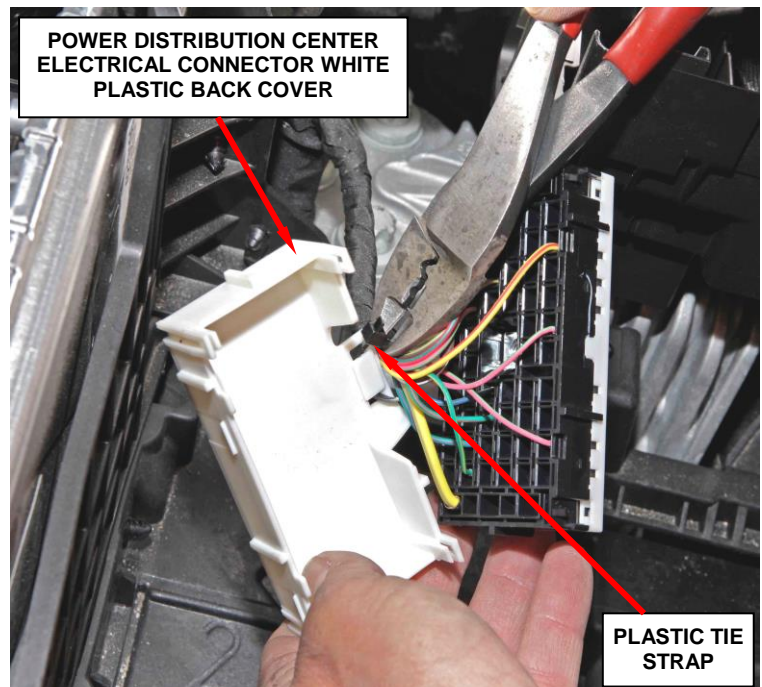

Figure 8 – Connector White Plastic Back Cover
11. Remove and discard the PDC electrical connector white plastic back cover (Figure 8).